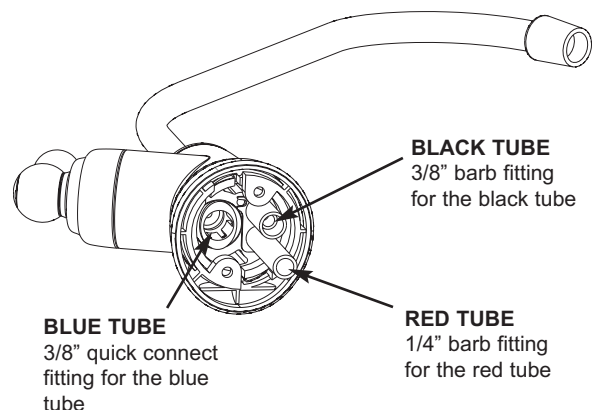

FIG. 15
C. Insert all the way onto the 1/4" faucet barb fitting on faucet. See Fig. 15.